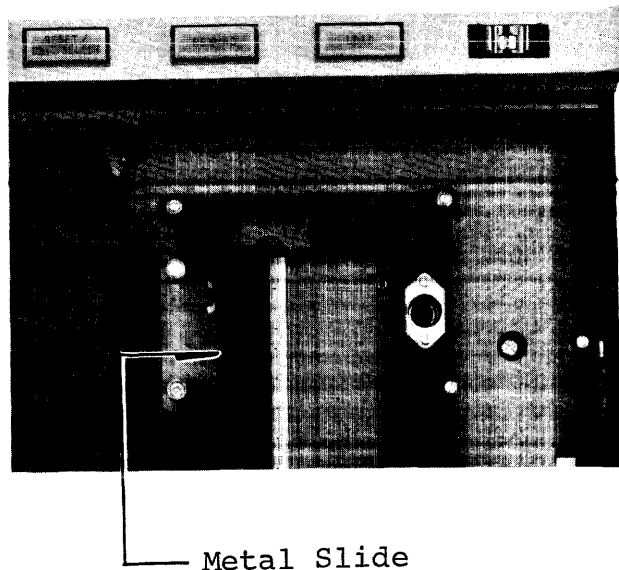

Figure 47. Pucker Pocket Adjustment
2. Read the gauge. If vacuum is not between 10 and 12 inches of  $H_2O$ , lift the tape from the vacuum pocket, loosen the screw and adjust the metal slide (refer to Figure 47) by moving it up to increase vacuum, or down to decrease vacuum. Put the tape back into the vacuum pocket and check the gauge again. Repeat until proper vacuum is reached. Tighten the screw. Remove the meter and cap the nipple.